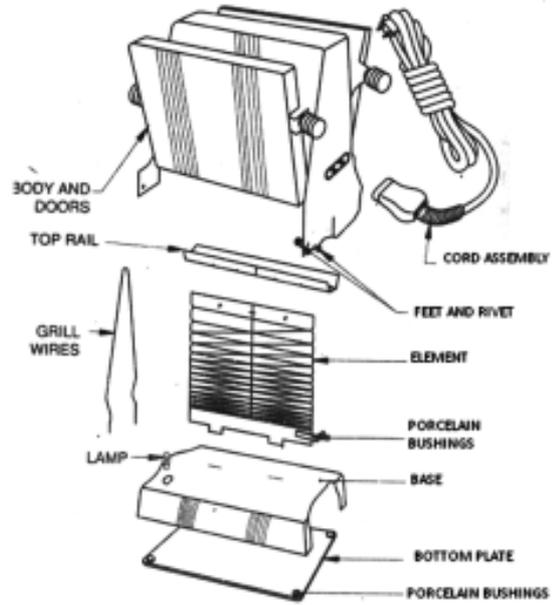

Fig. 8.7 - Non Automatic Toaster
**Non Automatic Toaster :** It consists of a metal shell containing a bread rack and a heating element. The doors on either side are hinged at the bottom, and swing out from the top and downward to a horizontal position. Bread is placed on the doors, which are then closed, thus bringing one side of each slice of bread close to the heating element mounted in the centre of the toaster shell. When one side is toasted, the door is opened manually, as shown in Fig. 8.7. The bread is to be turned manually for toasting the other side. The doors are then closed. The non-automatic toaster has neither switches nor thermostats.